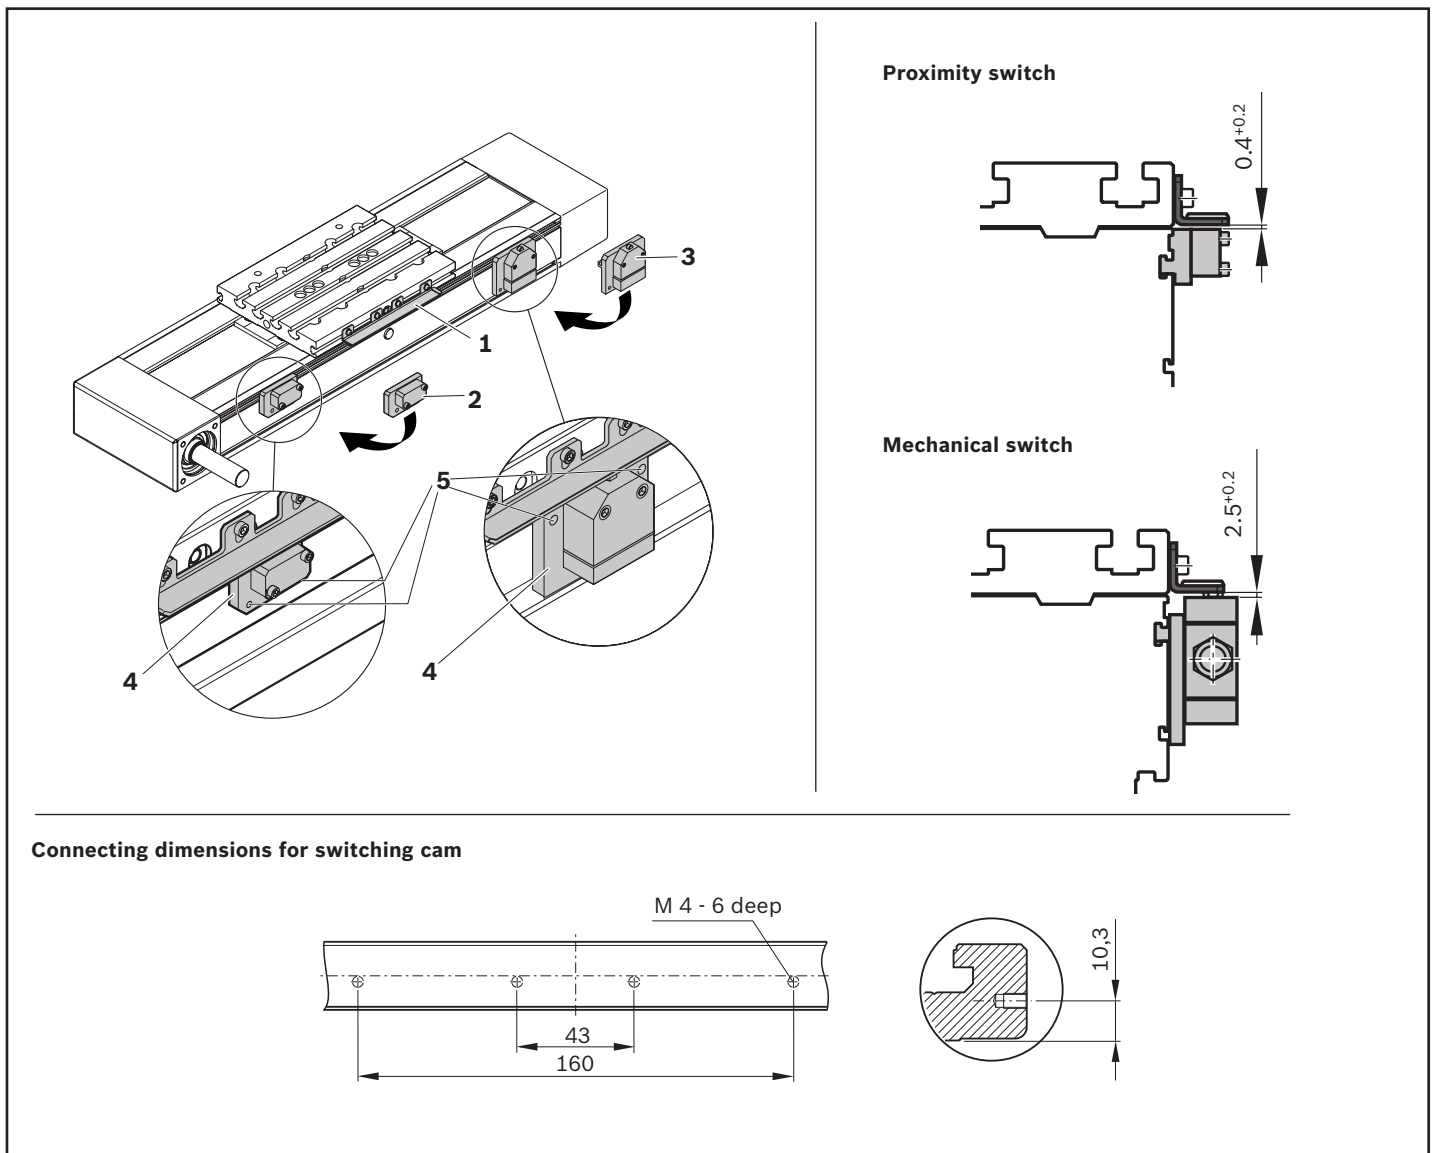

Fig. 10: Mounting of switching system at CKK/CKR-200
- Switch activation is only done via the switching cam using the connection plate. Fig. 10 shows CKR; mounting for CKK is identical.
- Fasten the switching cam (1) to the connection plate.
- Fasten the switching cam to the carriage attachments. Observe the connecting dimensions ➡ Fig. 10.